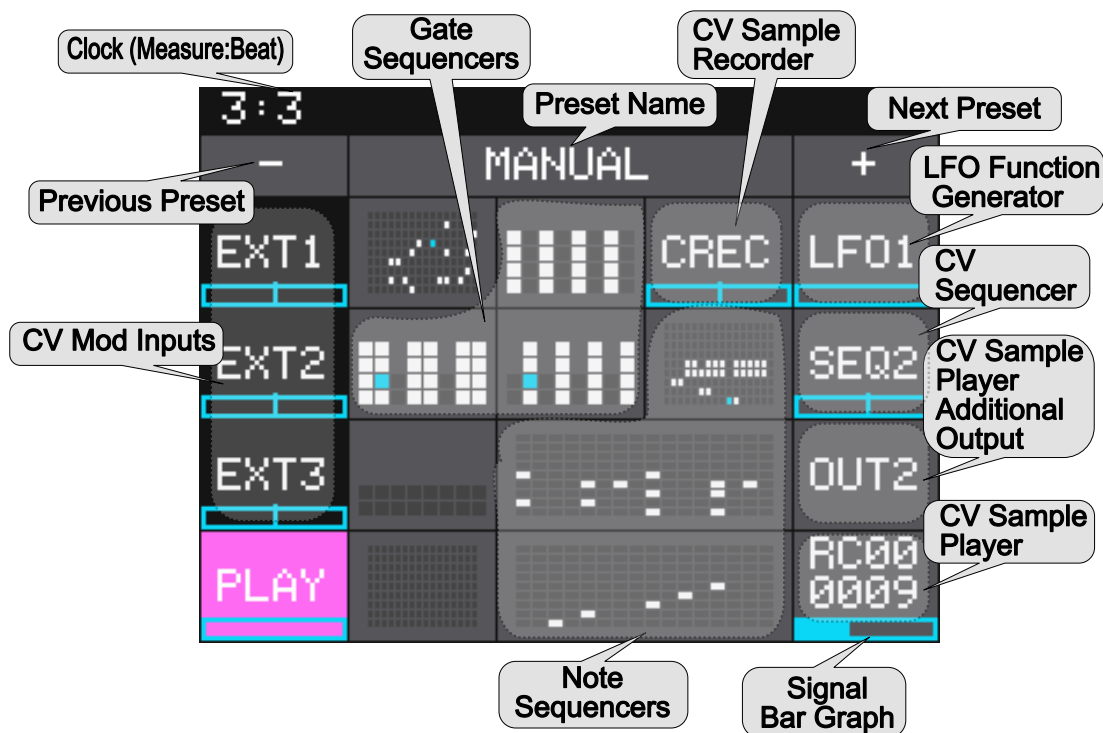

Figure 2: Main Screen Overview
Next make sure the microSD card that came with the module is inserted into the Memory Card Slot. Most modules come with the microSD card already inserted. The card should be inserted with the notched edge down. Now you can power up the rack. The module should start up in less than 10 seconds and you will see the Main screen as shown in Figure 2: Main Screen Overview above.
2. Cycle through the presets by touching the **+** and **-** buttons at the top of the Touch Screen on either side of the name of the preset (e.g. **MANUAL** in Figure 2: Main Screen Overview above).